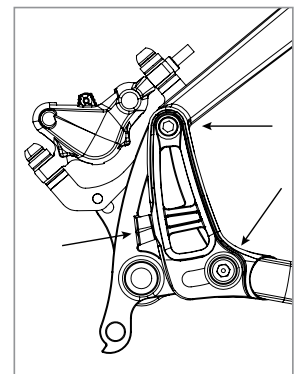

Figure 4
1. Slightly loosen the upper pivot bolts and the lower fixing bolts on both the driveside and non-driveside dropouts (fig 4).
1. Tighten the upper fixing bolts and both lower fixing bolts to 8Nm (fig 4).
3. If present, tighten both tension screws 1/8 turn to prevent them from rattling out during use (fig 4).